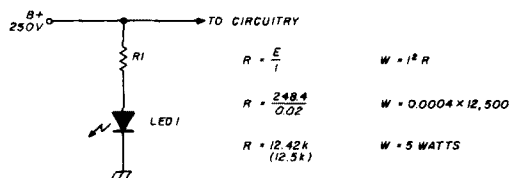

fig. 3. A voltage monitor that can be used, for example, in a power supply of moderate voltage. Calculations for series-resistor values are shown.
**Voltage monitor.** Fig. 3 illustrates this principle by the use of a LED to monitor the power-supply voltage in a tube-type receiver. The calculations required to determine the value of the series resistor is shown;